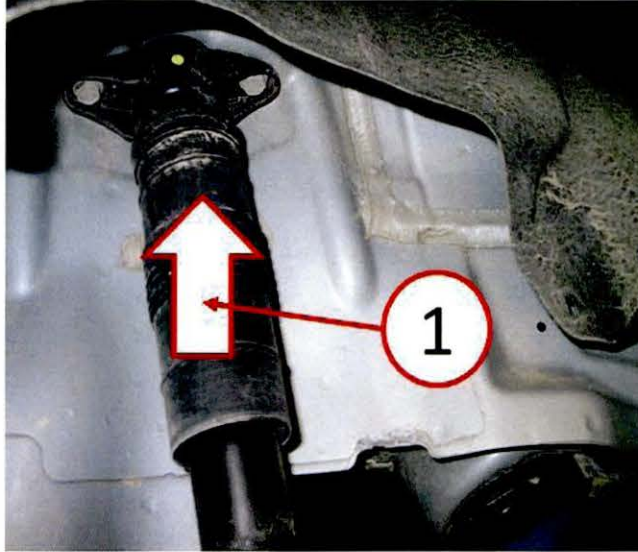

Fig. 7 Dust Boot
14. Install dust cover onto upper mount and jounce bumper assembly sliding upward as shown in (Fig. 7).